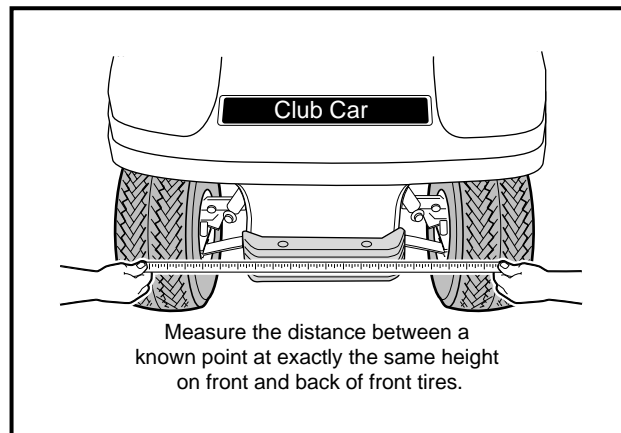

Figure 7-18 Check Toe-In
3. Measure the distance between the marks on the rear-facing surfaces of the tires, and then roll the vehicle forward one and one-half wheel revolutions until the marks appear on the forward facing surfaces of the tires at about the same height from the floor **(Figure 7-18, Page 7-15)**.